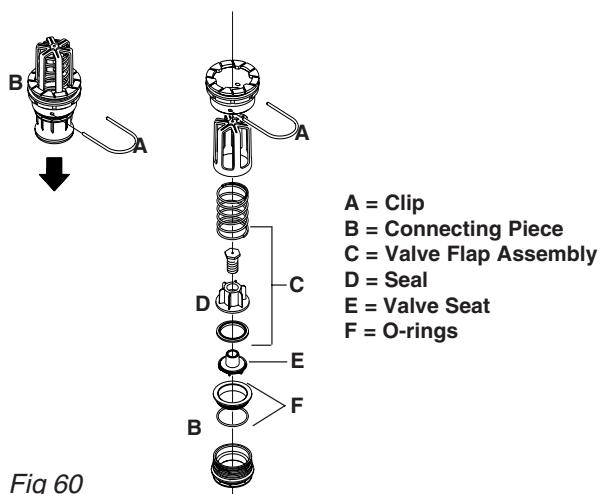

Fig 60
- 3 Pull out the clip (**A** Fig 60) and pull down the connecting piece (**B** Fig 60). The entire valve assembly can now be pulled out.
- 4 Check the cord and valve flap assembly (**C** Fig 60) for wear, replace the seal (**D** Fig 60) and reassemble.
- 5 Assemble the valve assembly again using a new valve seat (**E** Fig 60). Lubricate the O-rings (**F** Fig 60) before assembly.
- 6 Fit the clip (**A** Fig 60) again.